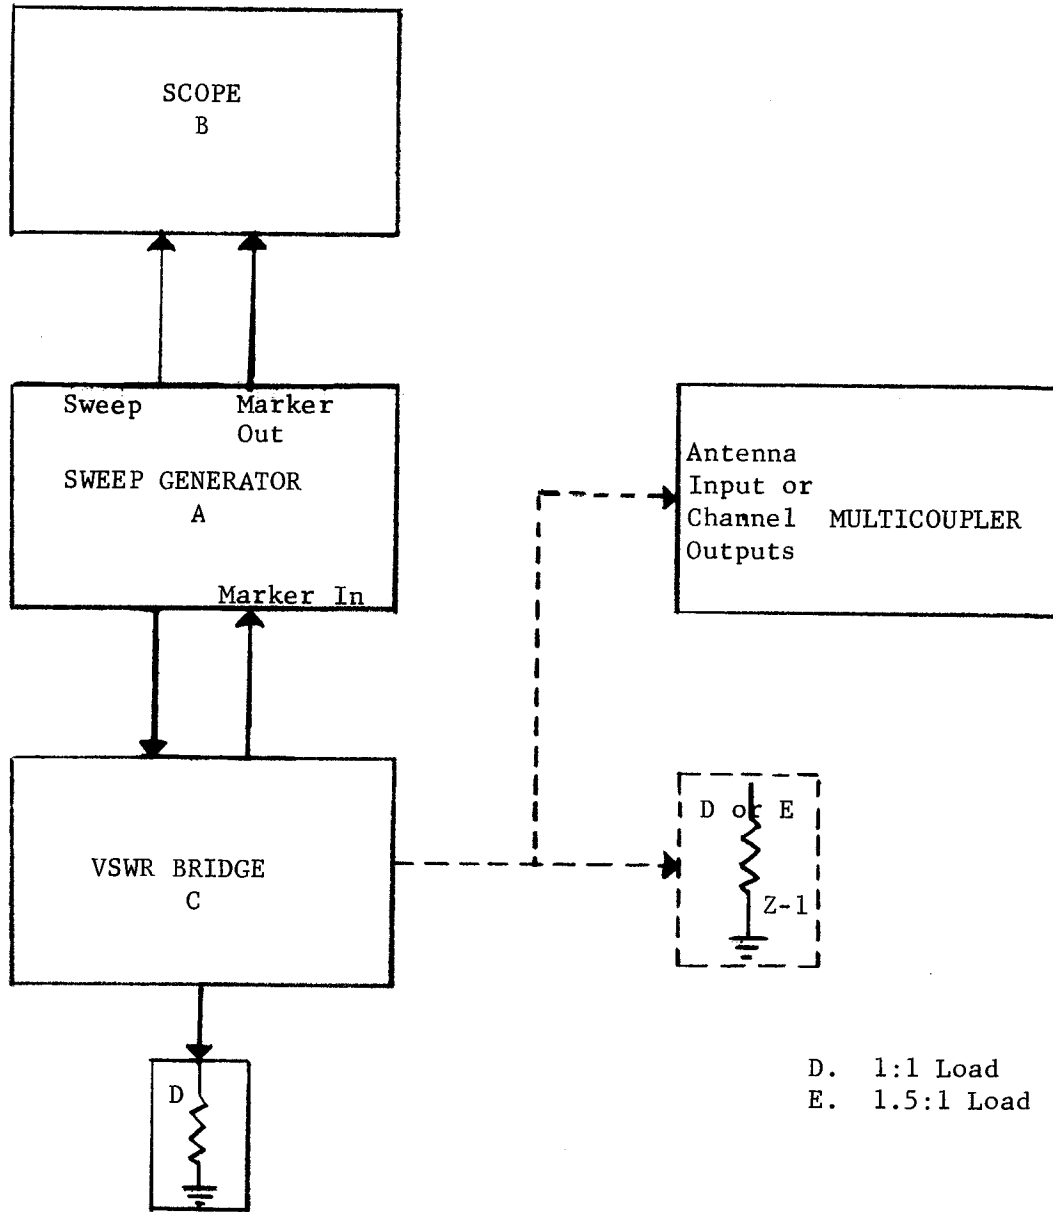

FIGURE 2.2
1. Connect the equipment as indicated in Figure 2.2.